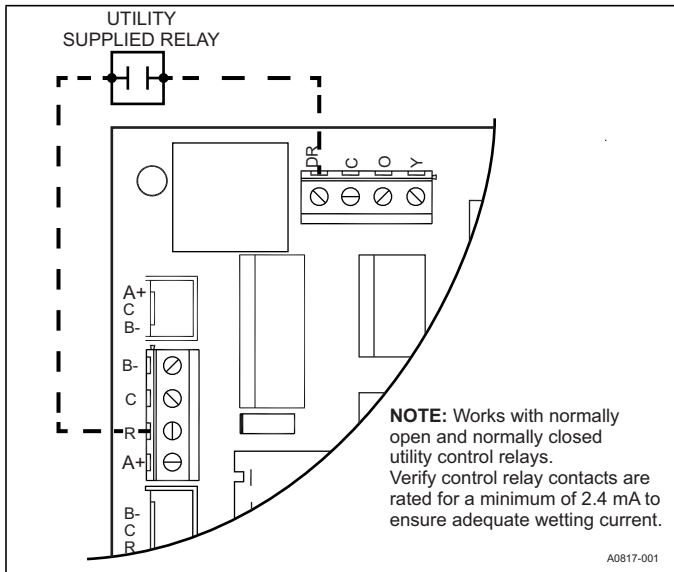
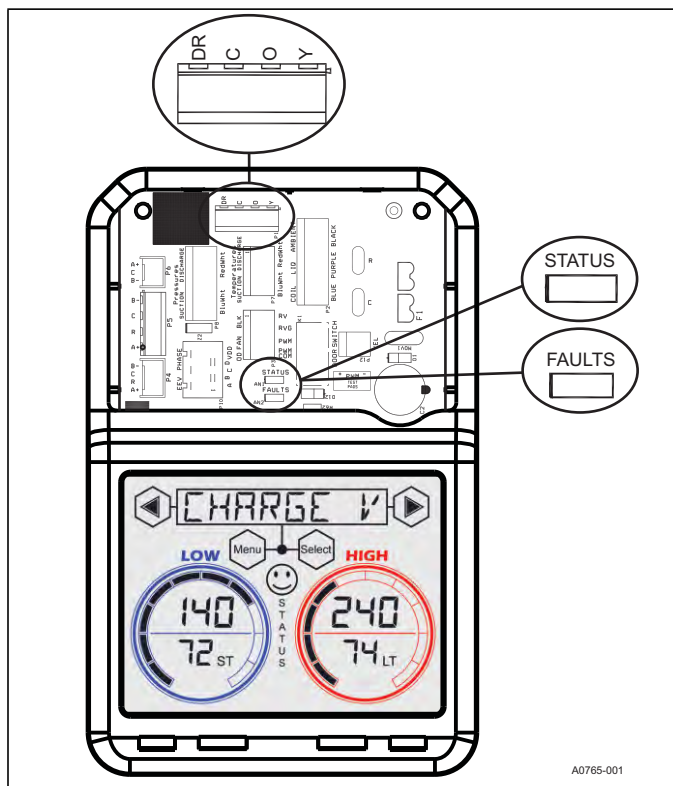

FIGURE 8: Demand Response Wiring
FIGURE 10: Main Outdoor Control and Display
The main outdoor control has a conventional 24VAC input (DR) for utility demand response signals. When a 24VAC signal is present on the DR input the Hx™ thermostat will adjust the indoor temperature set-point by the user selected setting. For further details on available settings, please refer to the Hx™ thermostat installation and operation manual. The DR input terminal location can be found in Figure 10 and typical wiring is found in Figure 8.
The main control board contains 2 LED's for status and fault display as shown Figure 10. The control will provide a status code indicating the state of the system using the Yellow LED as detailed in Table 5. The Red LED indicates a system fault is present. Further details of the fault can be found on the outdoor screen.